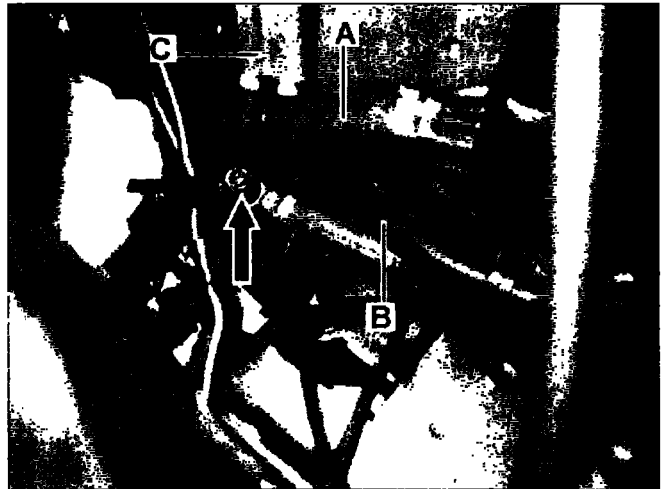

Figure 24
- Ensure wiring harness (A, Figure 24) touches the bracket (C, Figure 24) and is mounted there tension free.
- Ensure wiring harness (A, Figure 24) and water hose (B, Figure 24) are not touching each other.
- Ensure tightening torque on ground terminal stud (arrow, Figure 24) is **between 7 and 10 Nm**.